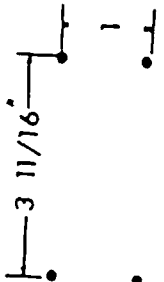
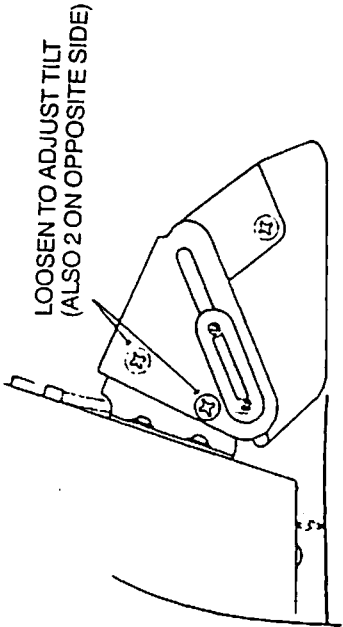

FIGURE 5
FIGURE 6
Once the mounting location has been determined locate and drill four holes (see Figure 5) so that face of transducer will be 1/2" below the surface of the boat (see Figure 6).
Before tightening hardware, adjust the transducer so the face is parallel with the bottom of the boat. This adjustment is accomplished by loosening the four large screws shown in Figure 6 then tilting the transducer. After adjusting, securely tighten these four screws.
Now adjust the transducer up or down so that the face is 1/2" below the bottom of the boat (See Figure 6). **IMPORTANT:** Do not allow any part of the metal bracket to be below the surface of the boat since this could cause damage to the transducer or boat if hit. After adjusting, securely tighten hardware. **IMPORTANT:** For aluminum hull observe sealing procedure previously discussed.
2. If Step 1 does not produce the desired results, loosen the four screws that mount the transducer to the transom and move the transducer down to where the bottom of the metal bracket is even with the bottom of the boat (see Figure 6).